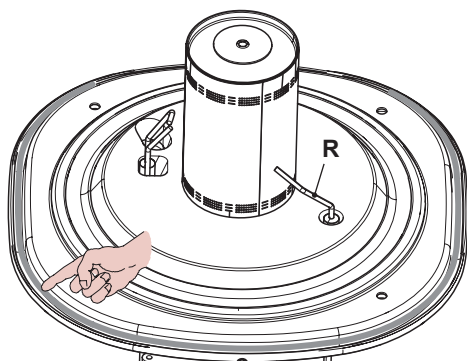

Fig. 9.13
- The detection electrode R in Fig. 9.13 also functions as a sensor for the correct drainage of the condensate.
Caution: After any periodical servicing or disturbance the combustion chamber silicon seal Fig. 9.13 must be fully inspected and replaced at the discretion of the service engineer.